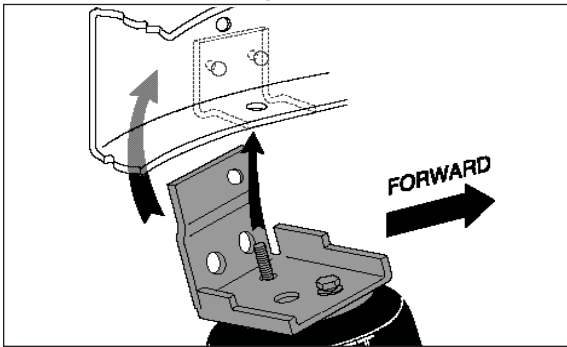

Figure 9
2. With the $\frac{3}{8} \times \frac{7}{8}$ " hex head bolt (N) **loose** in the air spring, insert the stud through the original jounce bumper mounting hole (Figure 9).